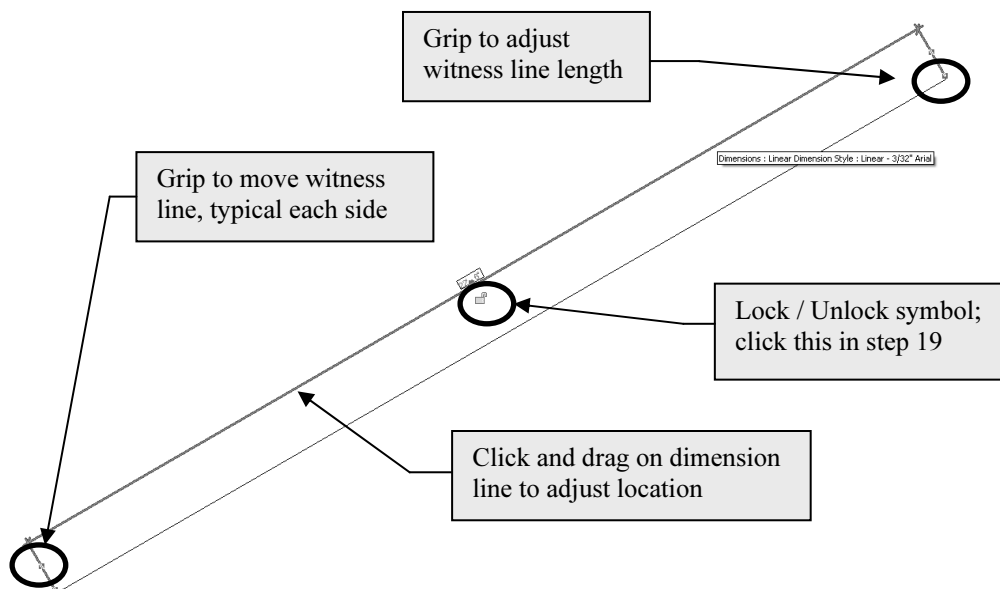

Figure 3-1.9 Selected dimension
20. Select the dimension (not the line) and note the following about the selected dimension (Figure 3-1.9).
21. Click on the **Lock/Unlock** (padlock) symbol to “Lock” the dimension (Figure 3-1.9).